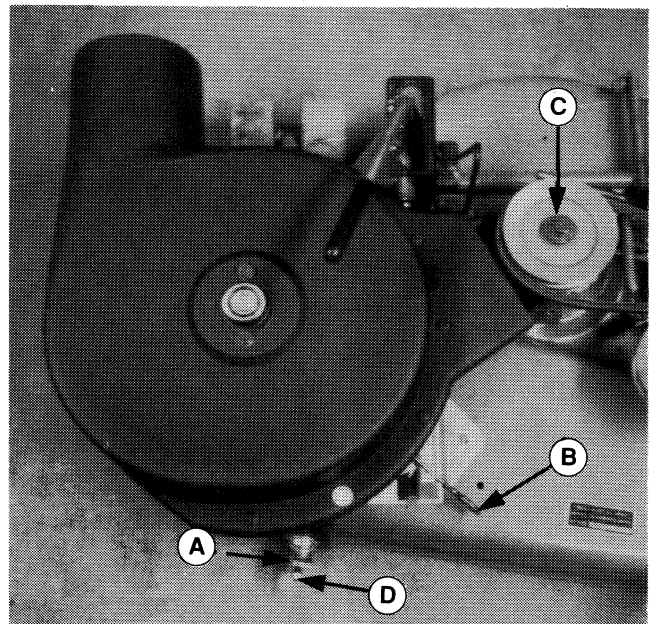

Figure 7.
- a. Slide the blower into position as shown in figure 7. and tighten the wing nut (A, figure 7).
- b. Push the belt retainer (B) to provide slack and install belt onto lower groove in pulley (C). (Rotate pulley while placing belt on.)
9. Place the deck drive belt in the upper groove of the pulley (C, figure 7):